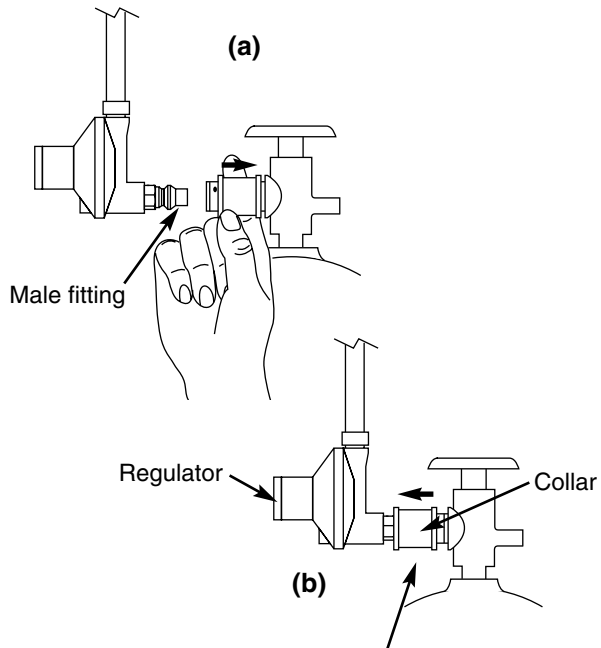

Figure 5
- c) Connect the hose to the tank. Route the hose so it does not interfere with the scale indicator rod. Slide back the collar of the quick disconnect on the tank valve. Figure 5 (a). Push the male fitting of the regulator into the quick disconnect, and maintain pressure. Slide the collar closed. Figure 5 (b). If it does not engage or lock, repeat procedure. Gas will not flow unless the quick disconnect is properly engaged.